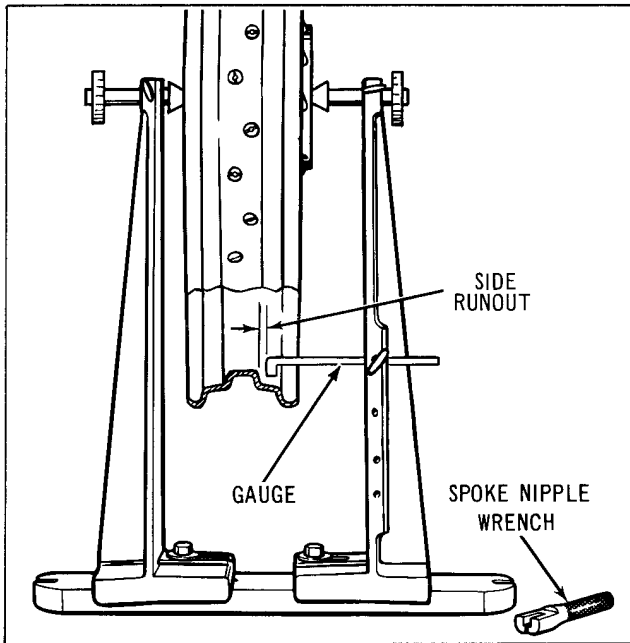

Figure 2-10. Truing Rim Sideways
6. Adjust truing stand gauge to side of rim well as shown in Figure 2-10 so rim at highest point will